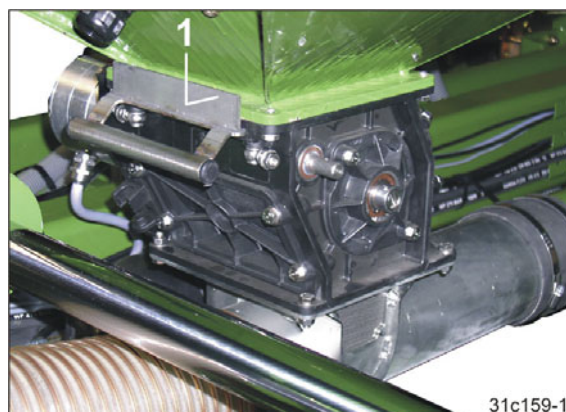

Fig. 249
2. Close the opening of the fertiliser hopper above the metering unit with the shutter (Fig. 249/1) (see section "Installing/removing the metering roller", Seite 138).